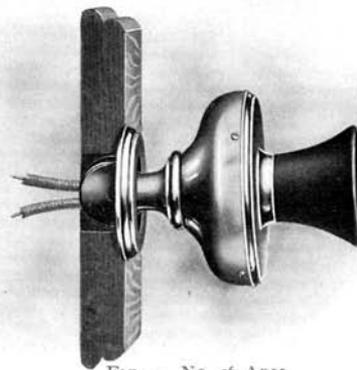

FIG. 4. NO. 26 ARM.
**No. 26 TRANSMITTER ARM**—Figs. 3 and 4 show our No. 26 or short type transmitter arm, which is designed for use on residence or hotel type telephones. It is made from finished castings with a black oxidized surface, and is arranged for concealing the transmitter cords. The same extent of vertical adjustment is provided on this arm as in the long type by means of the special construction of the hinge support shown in Fig. 4. Total length of arm from wall board or mounting to back of transmitter is only one inch. This is without doubt the neatest and most compact type transmitter arm ever constructed. Kellogg No. 9-L transmitters are arranged to mount on the No. 26 arm.